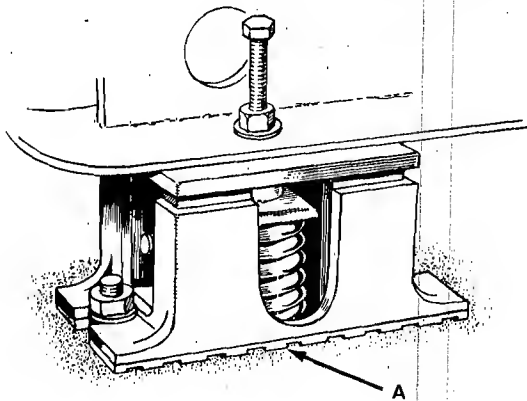
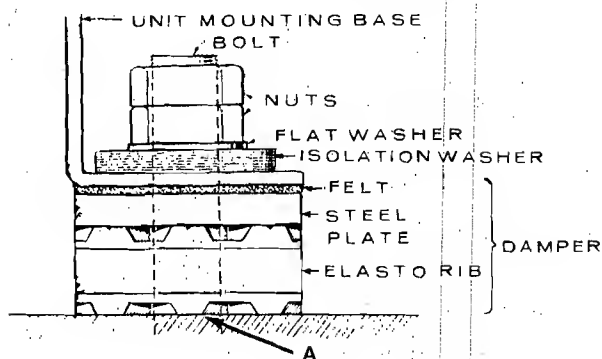

FIGURE 3. OPTIONAL SPRING TYPE VIBRATION ISOLATOR
FIGURE 4. PAD TYPE VIBRATION ISOLATOR
The area of load bearing support is adjusted to accommodate surface material. To determine pressure (P) exerted by the GenSet, divide the total weight (W) by the total surface area (A) of the rails, pads, or vibration mounts (see Figures 3 and 4). Use the following formula:
GenSets up through 150 kW include integral rubber vibration isolators which provide 75 to 85% vibration attenuation. Spring type (Figure 3) or pad type (Figure 4) isolators can be used with larger generator sets to achieve similar results. High deflection spring type isolators can be used with any GenSet to achieve 95 to 98% vibration attenuation for critical installations.